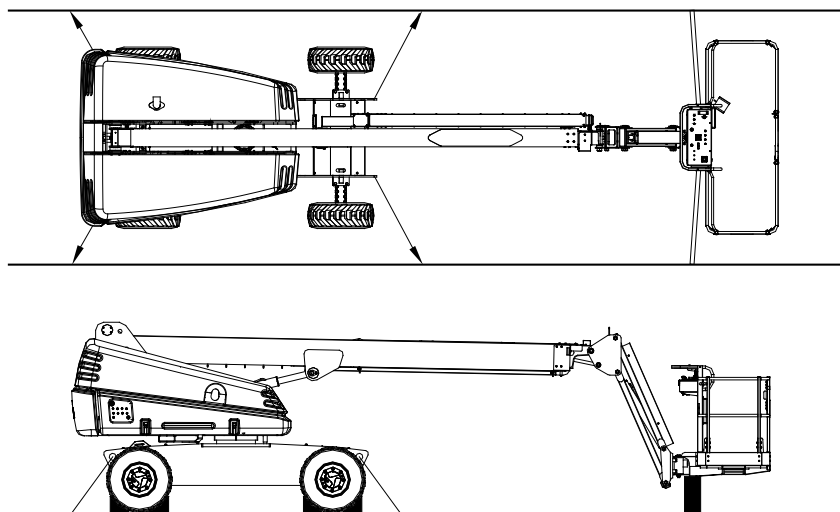

Figure 2-15. Tie-down Points
6. Anchor down aerial platform to transport surface using tie-down points (refer to Figure 2-15).